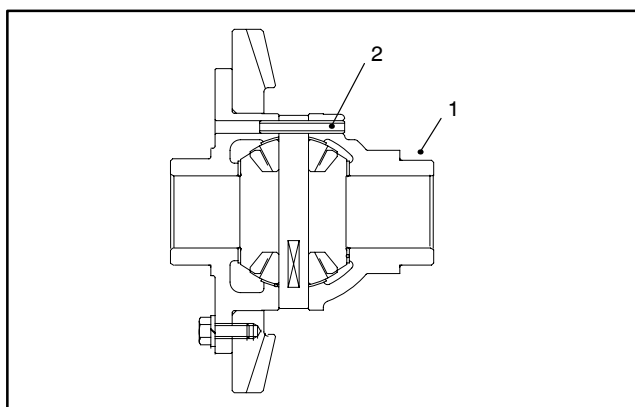

Figure 23
6. Drive the spring pin from the differential case with a punch and hammer. Discard the spring pin (Fig. 23).